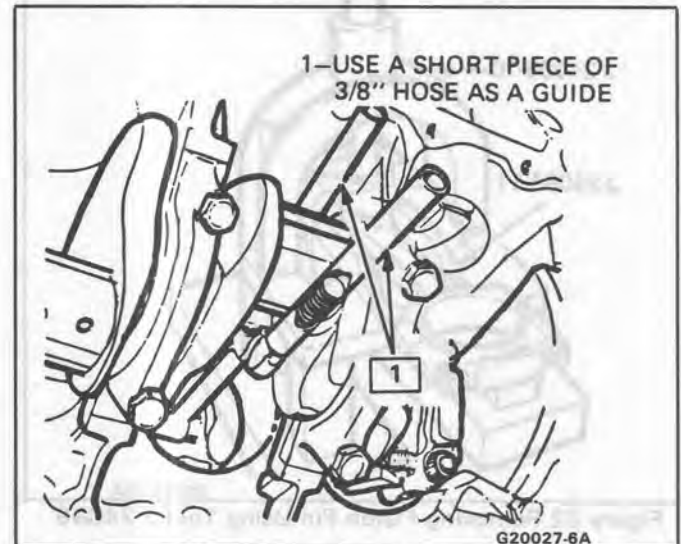

Figure 31 Connecting Rod Protectors (Typical)
**NOTICE:** Install thread protectors to avoid damage to the crankshaft journal (Figure 31).
3. Connecting rod stud thread protector, if required (Figure 31)